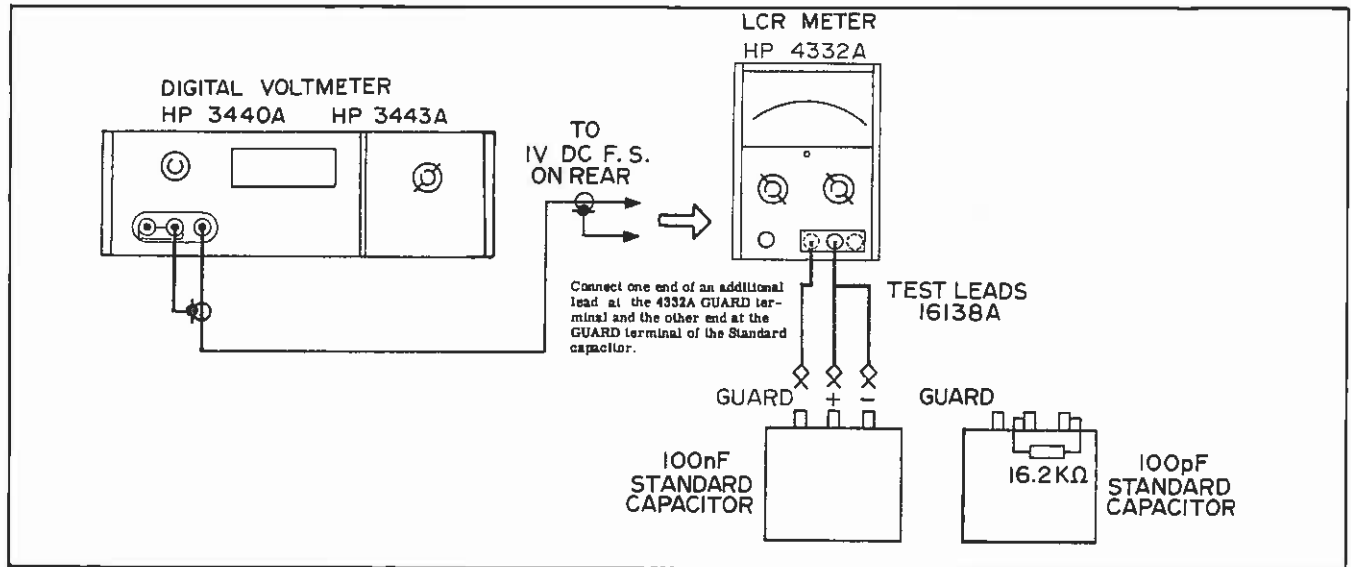

Figure 5-5. Capacitance Measurement Adjustment
- a. Connect equipment as shown in Figure 5-5.